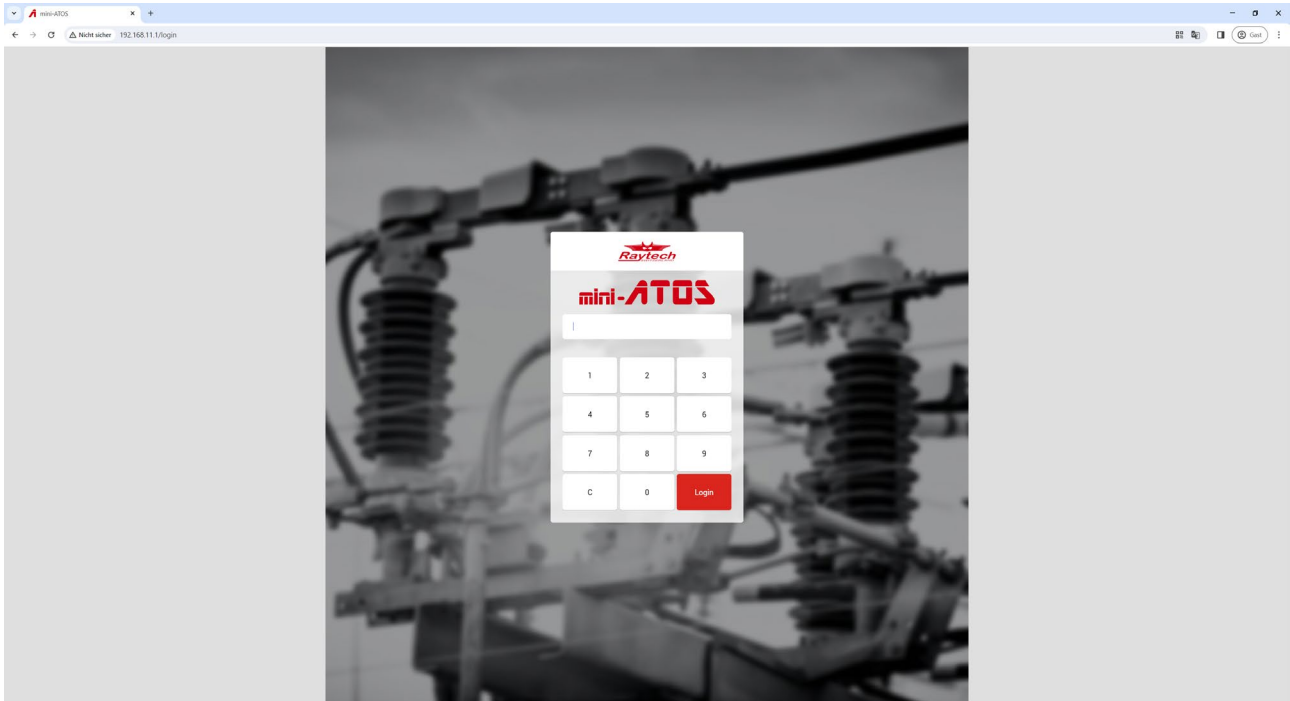

Figure 119: Remote access login page
- 6- Enter the access key and confirm to access the software (Figure 119)